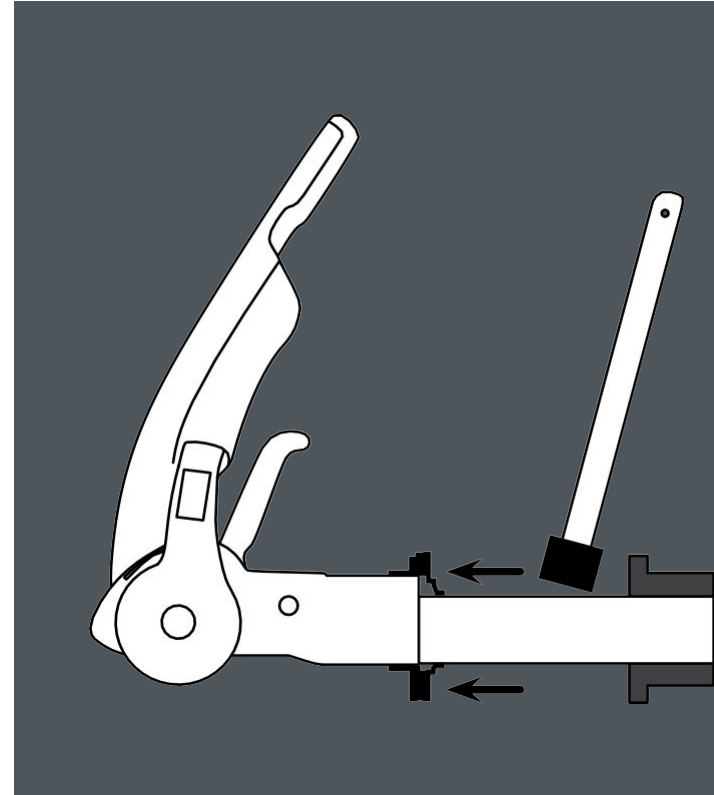

Fig 12 Remedial Action
- b. Lubricate the drawshaft sleeve via the grease nipples. In addition, push the gaiter forward and grease (DIN 51 825 K1A SK) the exposed part of the shaft (Fig 12).